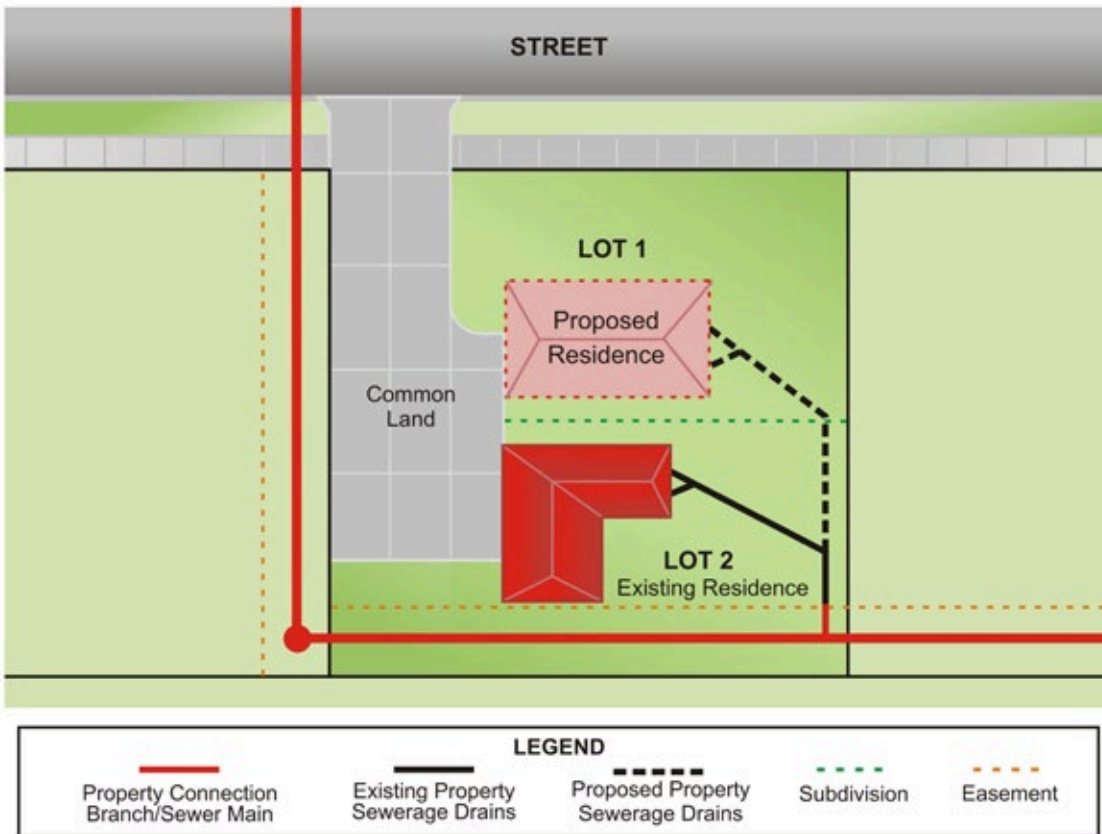

Figure 6 - Both Allotments Utilise the one (1) Property Connection Branch
Refer to below figures (ie Figures 6 - 9) for allowable servicing options under Section 12(2) of the *Subdivision Act 1988*.
1.21 Dual Dwelling Residential Developments Where One (1) Dwelling has Direct Access to the Sewer Main (Shared Services)